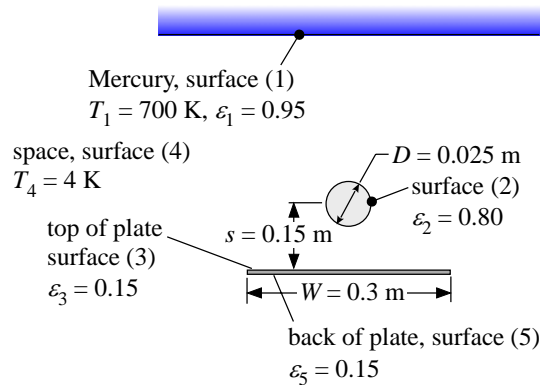

**Figure P10.5.7: Cylinder in a square enclosure.**
10.5-7 A cylinder is placed at the center of a square enclosure, as shown in Figure P10.5-7.